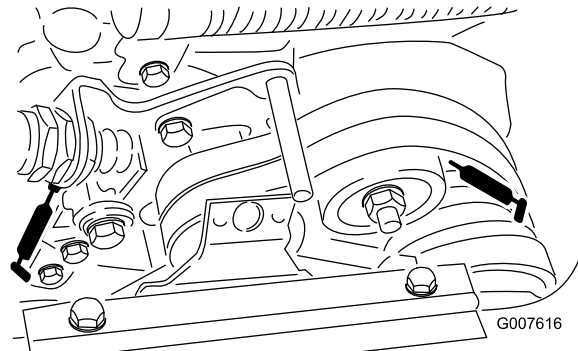

Figure 14
- 2 on the belt idler pivots (Figure 14)